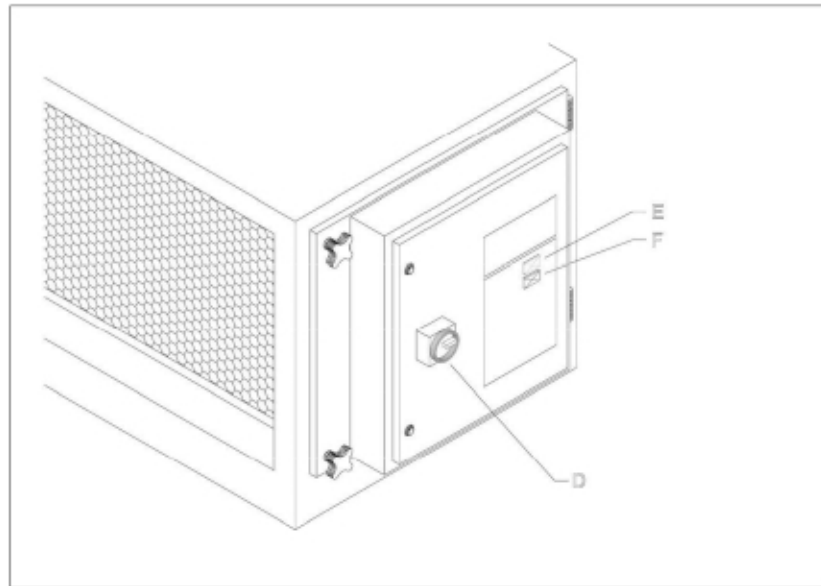

Figure 2.3
The final filter (4) is the last filtration step and it also spreads the airflow. There is an on/off switch (D) and a high-voltage indicator (E) on the control panel (see fig. 2.3). Please contact your dealer if the alarm light is illuminated. Regularly check the functioning of the indicator when using the product, since it indicates that the electrostatic filter is properly charged.